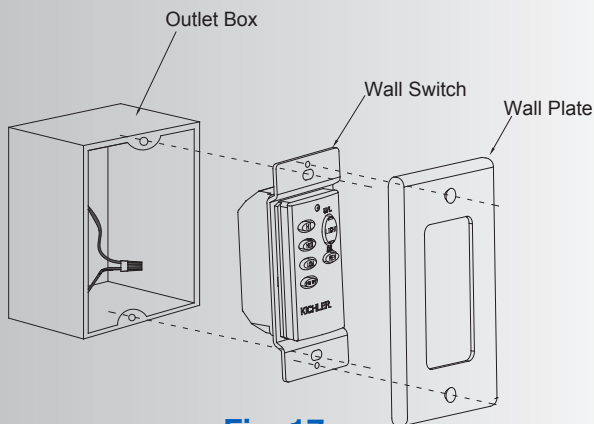

Fig. 17
Step 2. Use the screws provided to secure the wall transmitter to the outlet box. (Fig. 17)